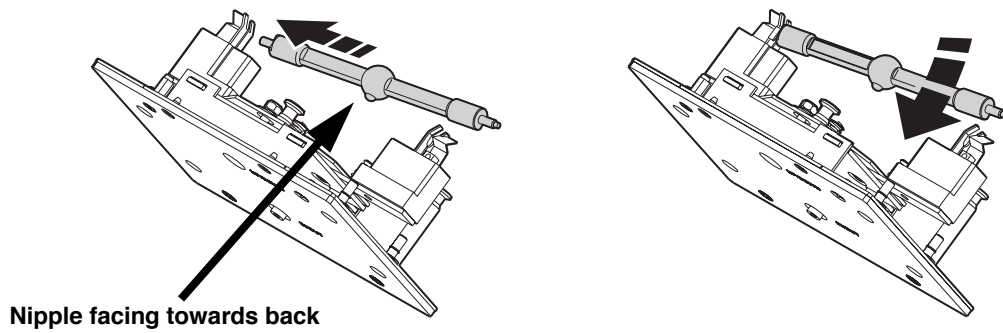

Figure 4: Lamp insertion
- With the nipple on the replacement lamp facing towards the back as shown in Figure 4, insert the left pin into the socket. Push down on the right-hand spring and snap the pin into place.